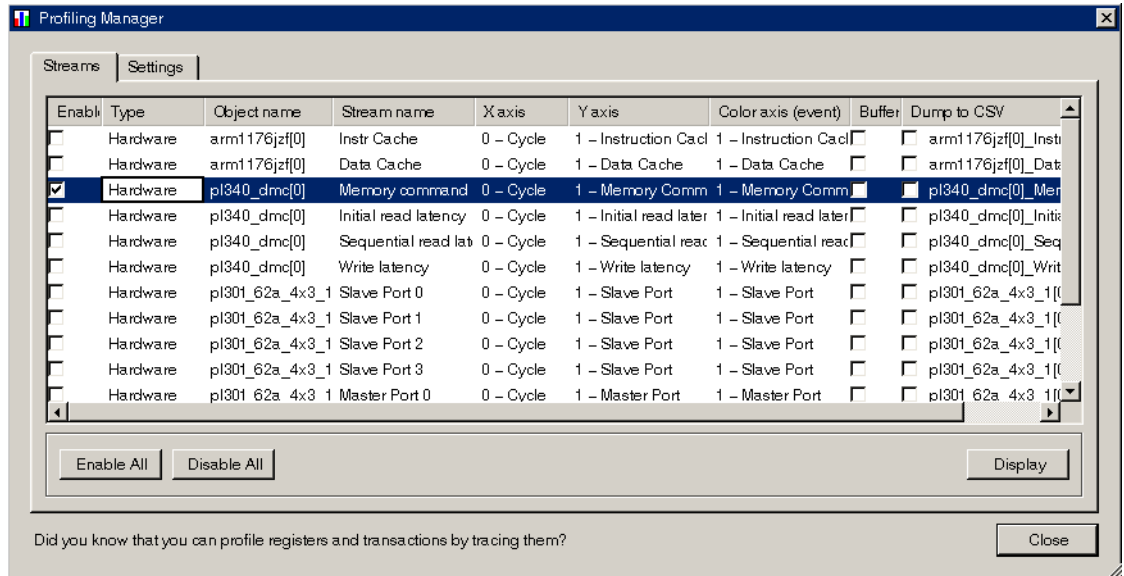

Figure 7-13 Profiling Manager dialog
2. In the Profiling Manager dialog box, double-click on the third row containing a Component name of `pl340_dmc[0]` and a Stream name of **Memory** command, as Figure 7-13 on page 7-11 shows. This opens a Profiling window for the DMC.